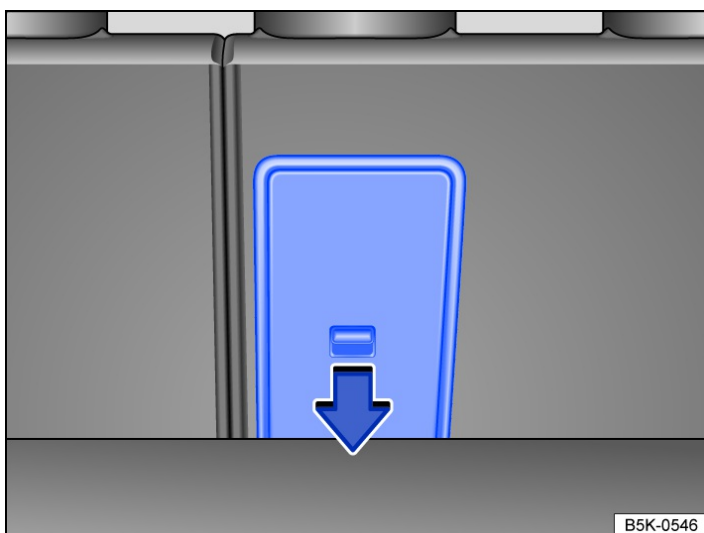

Fig. 2 In the luggage compartment: opening the load-through hatch.
- OR: opening the load-through hatch from the luggage compartment: push the release lever down in the direction of the arrow → Fig. 2 and push the cover of the load-through hatch forward.